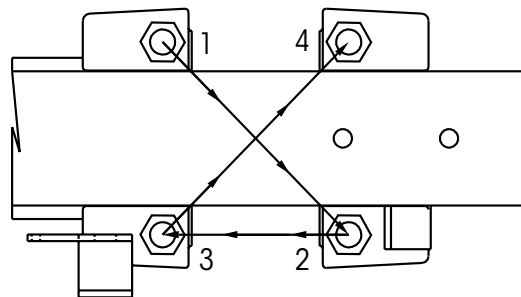

Figure 16: U-bolt nut tightening sequence
5. **Torque** nuts on U-bolts to Hendrickson's recommended torque specifications⁵. Alternate tightening opposing corners of the clamp assembly as shown in Figure 16.